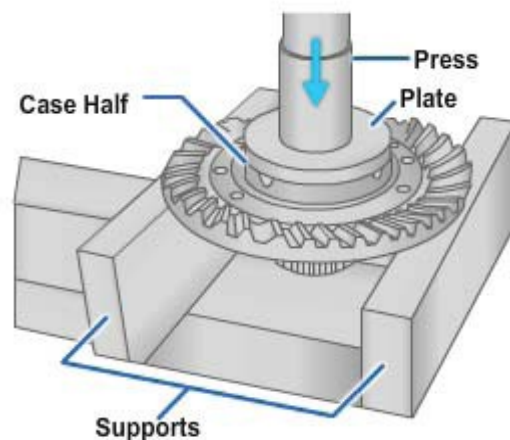

Figure 8-74 – Pressing the flange case half out of the crown gear.
6. Separate the case half and ring gear using a press. Support the assembly under the ring gear with metal or wooden blocks and press the case half through the gear (*Figure 8-74*).